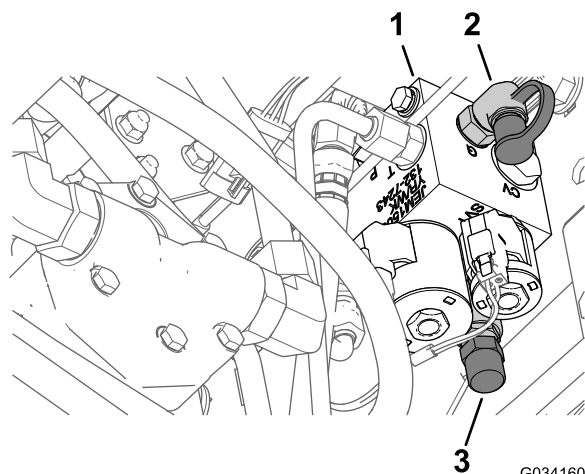

Figure 16
- Connect a pressure gauge to the test port at the rear of the lift manifold (Figure 16).
- At the front of the lift manifold, remove the cap from the weight-transfer spool (Figure 16).
- Loosen the jam nut at the bottom of the weight-transfer spool (Figure 16).